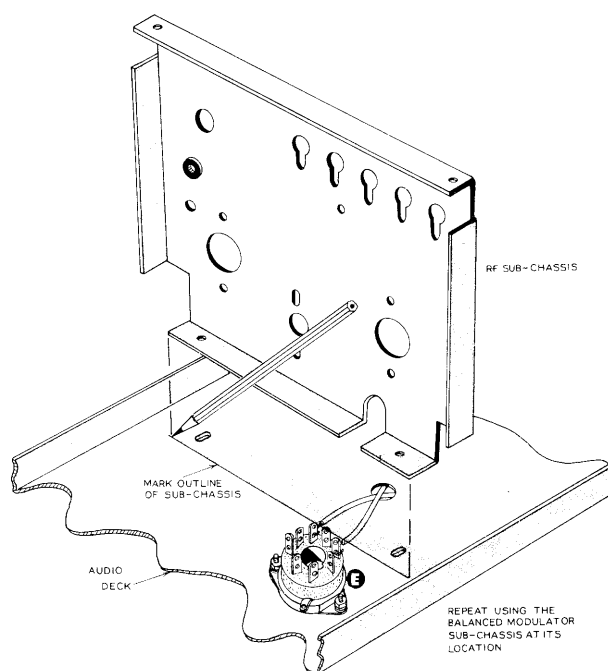

Figure 5
- () Install the inter-stage transformer stamped 51-37 at T4. The black and the green wires are inserted in the opening nearest the octal socket (E). The red and blue wires are placed through the remaining opening; 6-32 hardware is used to secure. Install a #6 solder lug under the nut at the end nearest the chassis flange instead of the usual lockwasher.
- (✓) Connect the black wire of T4 to E7 (NS). Dress as shown in Pictorial 2.
- (✓) Connect the green wire of T4 to E5 (NS). Dress as shown.
- (✓) Before advancing further, temporarily select the balanced modulator chassis and the RF chassis. Hold them in place on the audio deck and, with a pencil, draw an outline of the chassis on the inside of the audio deck as shown in Figure 5. See Figure 13, Page 38 for parts identification and placement. From this point on, do not allow any of the wiring in these outlines, except the green and black wires from T4. Remove the two sub chassis and lay them aside. Proceed with deck wiring.